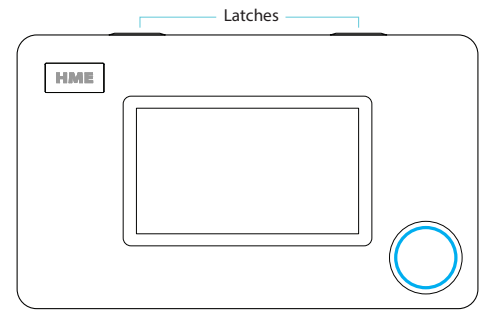
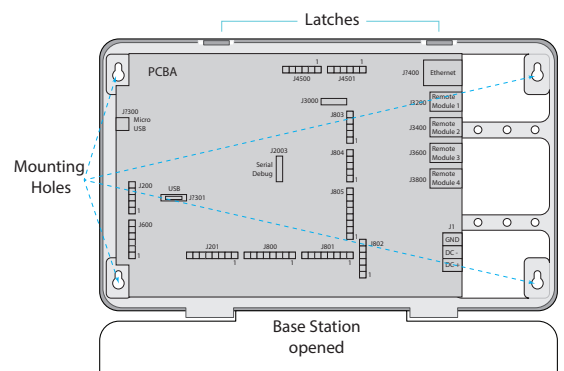

Fig. 2.2
Fig. 2.3
3. There are two latches along the top side of the Base Station (see Fig. 2.2). Unlatch these to open the Base Station cover (the cover does not completely detach as it is hinged on the bottom side). Four mounting keyholes are visible, one at each corner through the legs (see Fig. 2.3). Use a pencil to mark the wall through